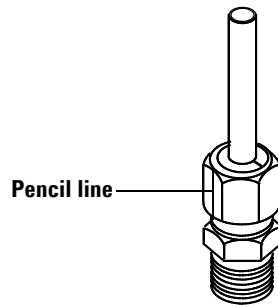

Figure 14 Marking the fitting
- 7 Mark the nut with a pencil line (Figure 14).